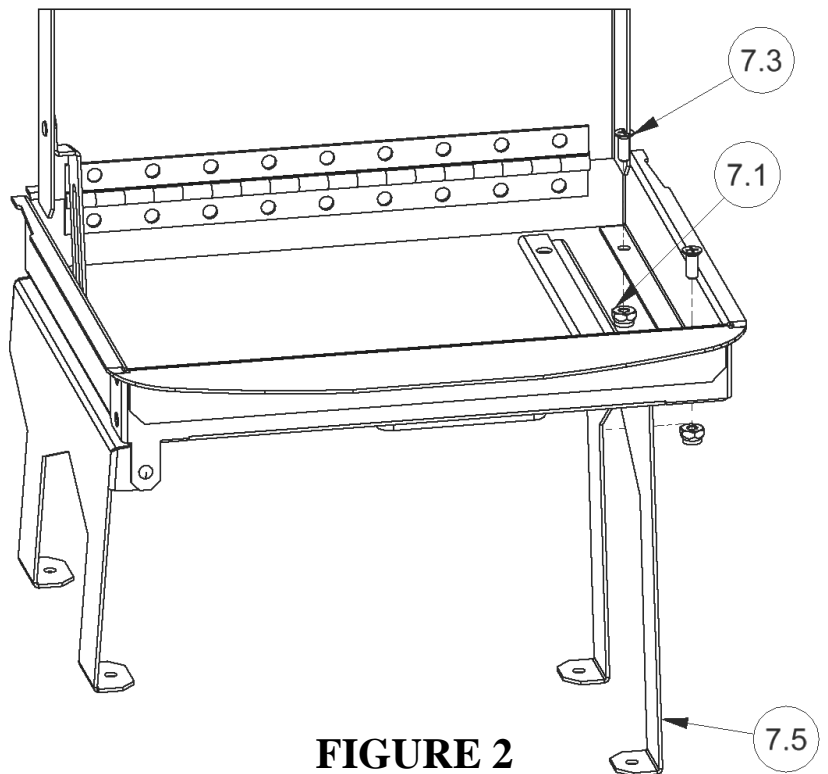

FIGURE 2
6. **Figure 2:** Slide the #7.5 Left Leg over the inner flange of the collar and bolt with (2) #7.3" #10-32x1/2 flat head screw and (2) #7.1 1/4" Nylock Nut.